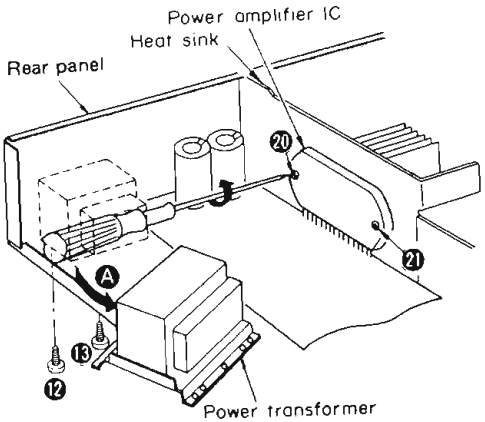

Fig. 4
2. Remove the 2 setscrews (Fig. 4 : ⑫, ⑬) to detach the power transformer from rear panel in the direction of arrow A.
4. Remove the 2 setscrews (Fig. 4 : ⑳, ㉑) used to secure the power amplifier IC on the heat sink, and then pull the power amplifier IC.